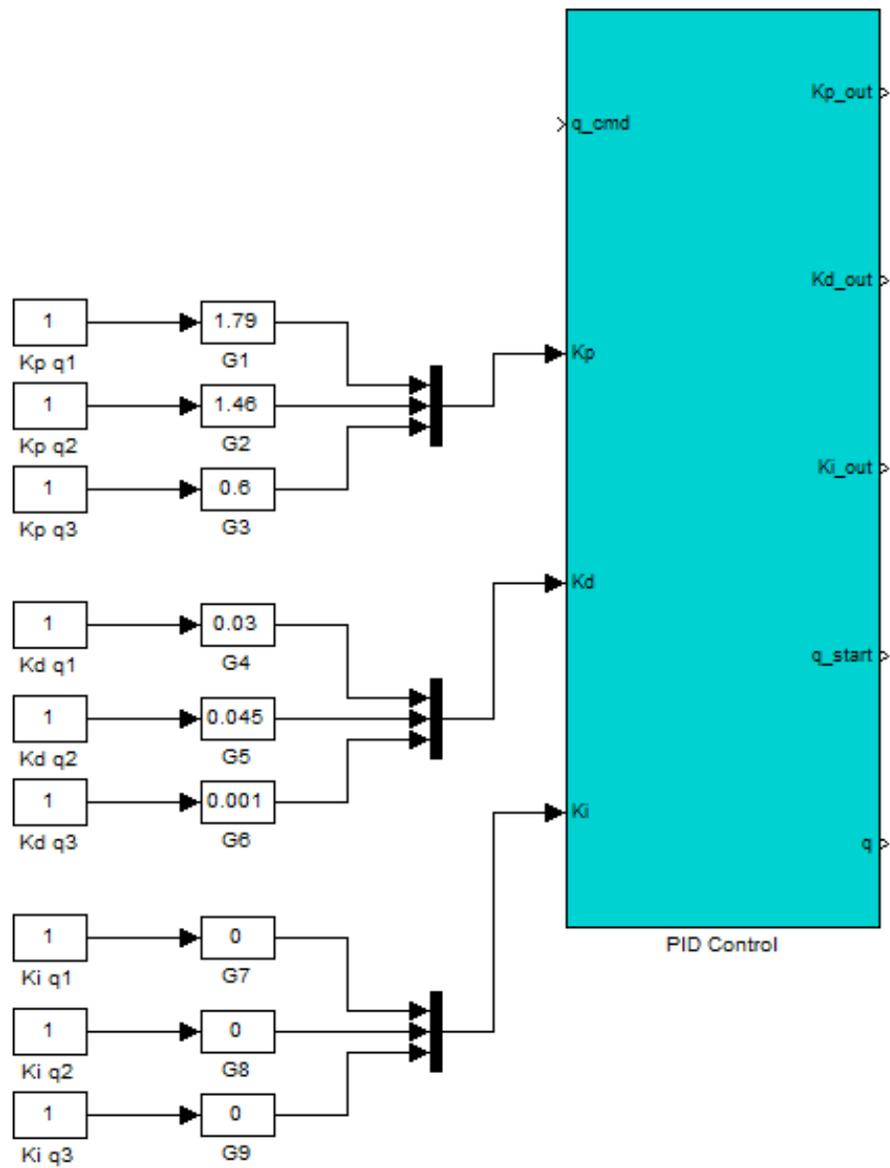

Figure 5.4: PID controller
1. Open **Position_Control.mdl** and notice the **PID Control** block shown in Figure 5.4. The following is a description of its inputs and outputs: